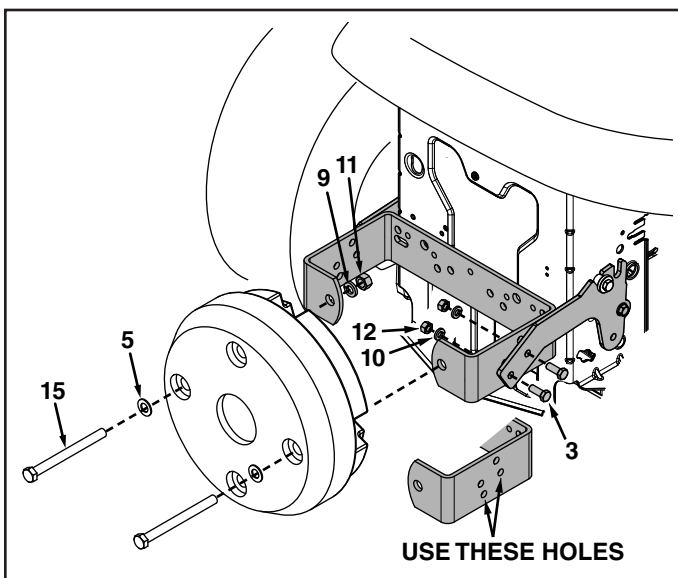

FIGURE 9
2. Assemble the weight bracket (1) to weight bracket arms (2a) using four 3/8-16 x 1" hex bolts (3), 3/8" lock washers (10) and 3/8-16 hex nuts (12). See figure 9.
3. Assemble wheel weight to weight bracket (1) using two 1/2" x 5-1/2" hex bolts (15), 1" O.D. washers (5), 1/2" lock washers (9) and 1/2-13 hex nuts (11). Tighten securely. See figure 9.